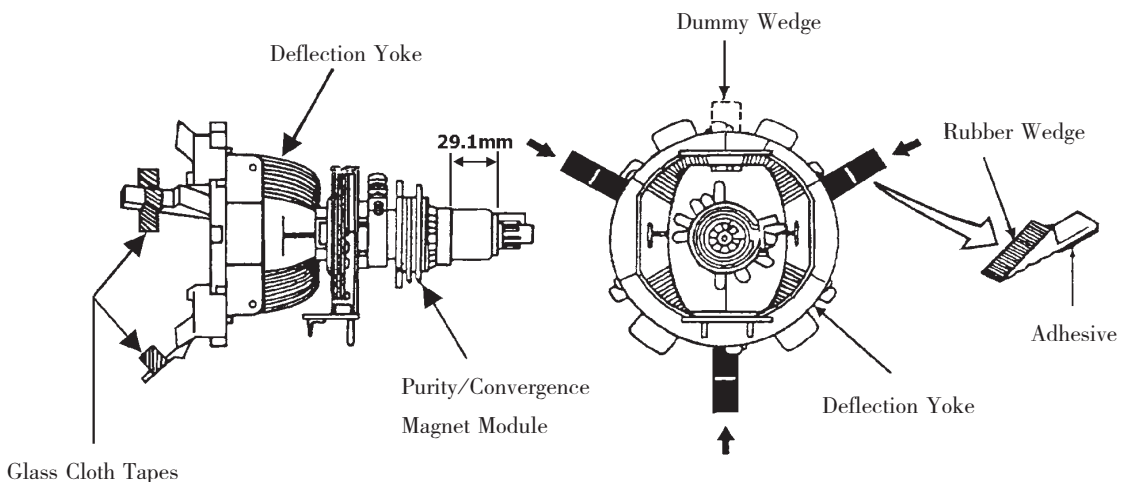

Fig. 24
The purity/convergence magnet assembly and rubber wedges need mechanical positioning. Refer to Fig. 24.
- 2) Temporarily put a wedge as shown in Fig. 24. (Do not remove cover paper on adhesive part of the wedge.)
9) Stick three adhesive tapes on wedges as shown in Fig. 24.